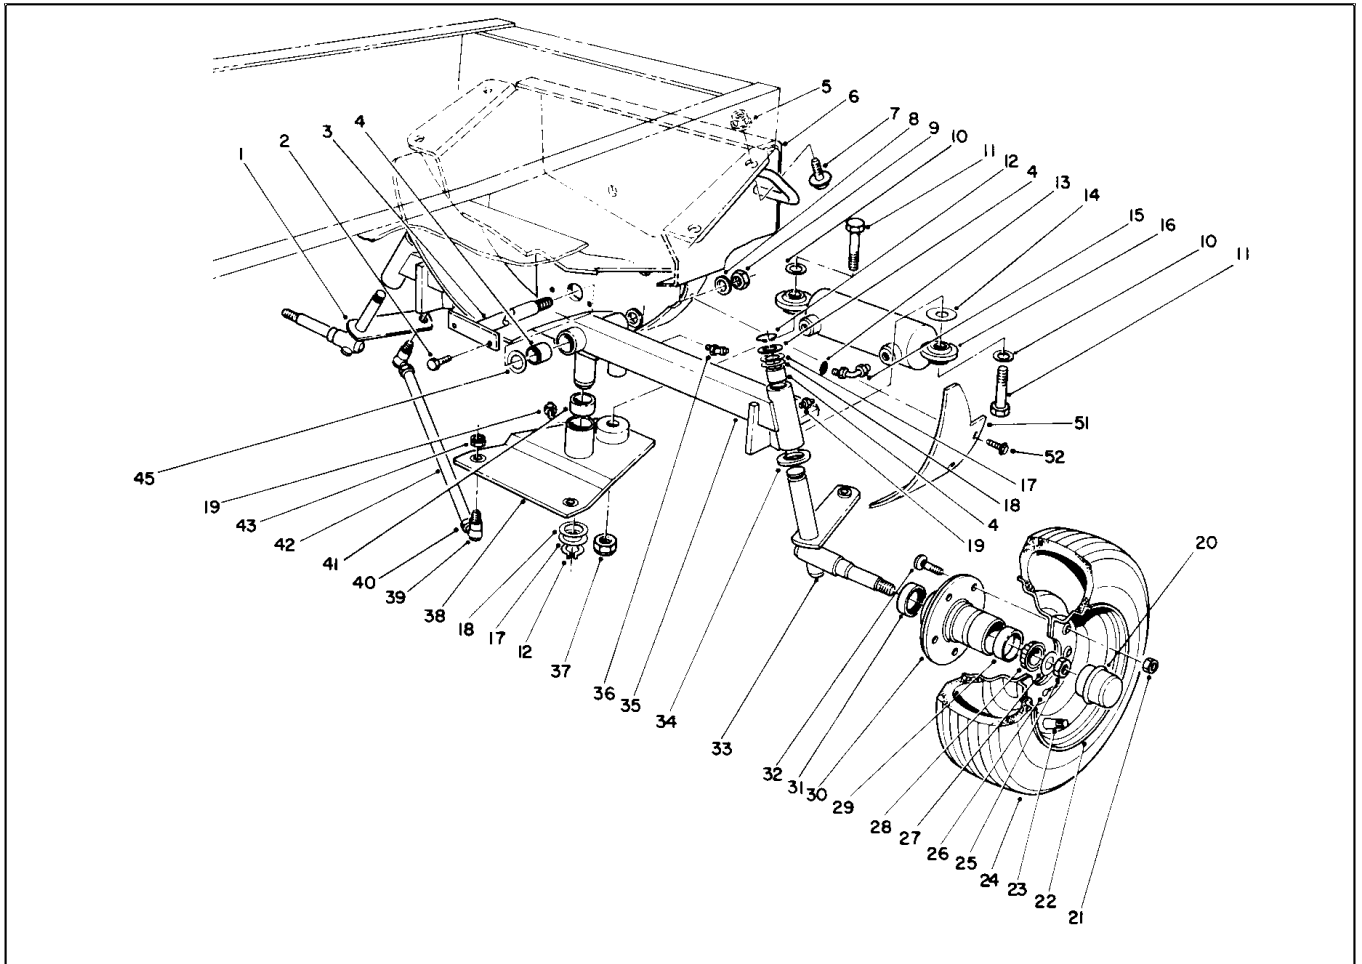

Figure 16
2. Remove the nut (Fig. 16, Item 9) from the end of the rear axle pin. Remove the two (2) cap screws (Item 2) securing the axle pin to the frame.
The steering pivot (Fig. 16, Item 38) must fit snugly onto the mounting pin. Excessive movement of the steering pivot may indicate worn bushings or tie rod ball joints.
1. Remove the lock nut (Item 37) and cap screw (Item 11) securing the steering cylinder rod end to the steering pivot (Fig. 16).
2. Remove two (2) nuts (Item 43) to disconnect the tie rod end (Item 39) from the spindle arm (Item 1, 33). Inspect all tie rod end ball joints for wear or damage and replace as necessary.
7. Connect the tie rod end to the spindle bracket with one (1) nut. Tighten the nut to a torque of 25 - 33 ft-lb. Install the jam nut and tighten against the other nut to secure tie rod end.
2. Remove nut (Fig. 16, Item 9) and washer (Item 8) from end of rear axle pin. Remove the two (2) cap screws (Item 2) securing the axle pin to the frame.